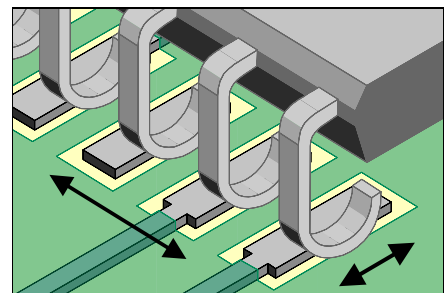

Figure 1: Place component and check alignment.
2. Place the component in position and hold it steady. The leads must be aligned with the pads. On large components this is best done by aligning the leads on opposite corners. (See Figure 1).